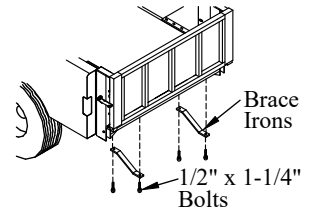

Figure 17: Lower brace iron location.
1. **Bolt** the two (2) brace irons to the bottom of the liftgate using 1/2" x 1-1/4" bolts, washers, and lock washers (Figure 17).